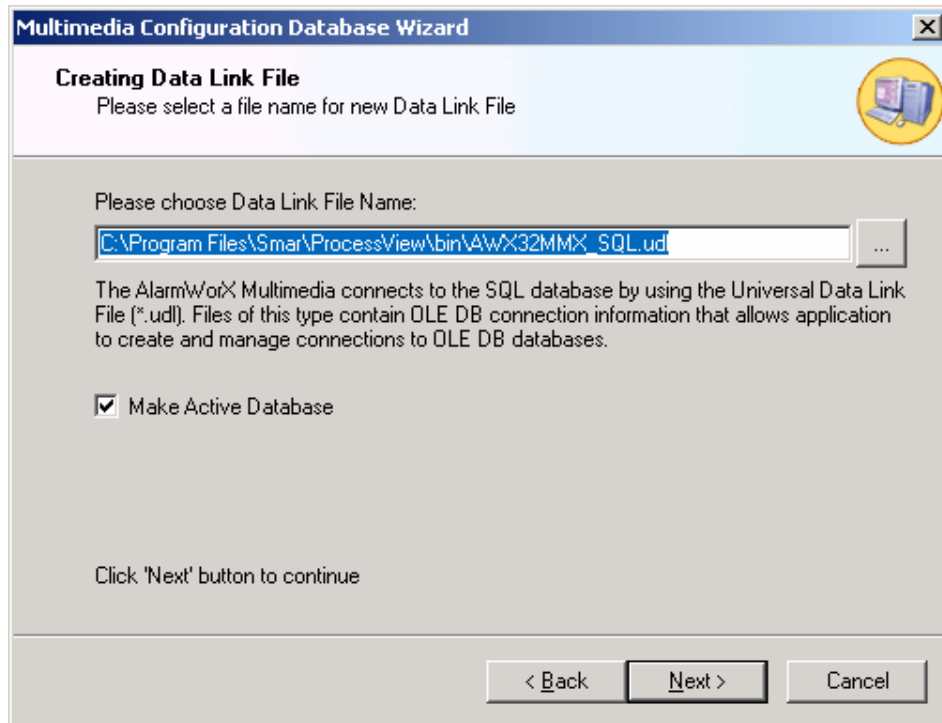

Figure 1.26. Selecting a Directory and File Name for Universal Data Link (.udl) File
7. Enter a name and directory path for the new .udl file in the **Data Link File Name** field, as shown in **Figure 1.26**. You can browse for a directory by clicking the ... button to the right of this field. Click the **Next** button to save OLE DB connection information in the .udl file.